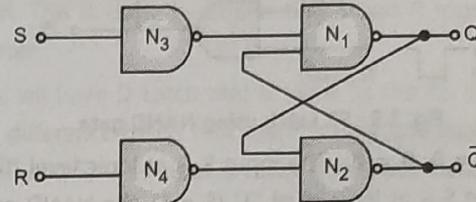

Fig. 3.8 : Memory cell with provision for entering data
- This circuit is with 2 input NAND gates N_1 and N_2 ; two additional inverters N_3 and N_4 is as shown in Fig. 3.8.